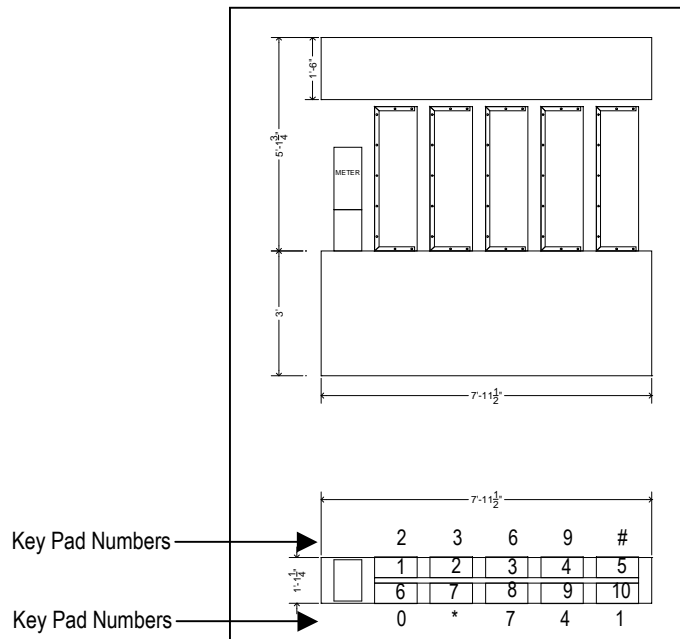

Figure 3
- Vending islands that are perpendicular and have their vendors back-to-back start their numbering at the leftmost vendor nearest vendor meter and continues in order to the last vendor on the left side. The next vendor starts again in the front on the right side and continues to the right rear. **See Figure 3.**